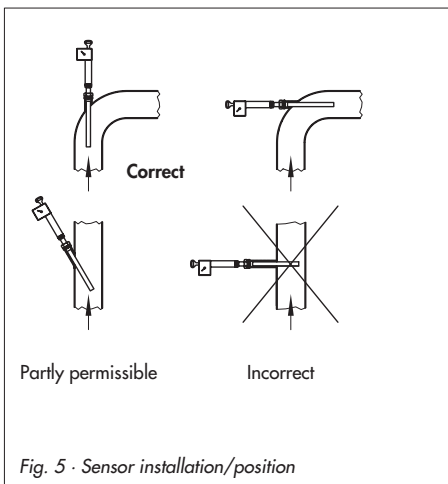

Fig. 5 · Sensor installation/position
*The entire length of the sensor must be immersed in the process medium. Observe the permissible mounting position as illustrated in Fig. 5.*